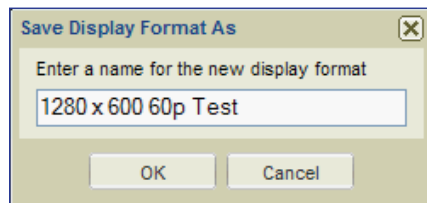

Figure 150. Save a Display Format
12. Click **Save As** (❷) to save the new display format.
13. In the **Save Display Format As** dialog box, enter a name for the new display format and click **OK** (see figure 150).